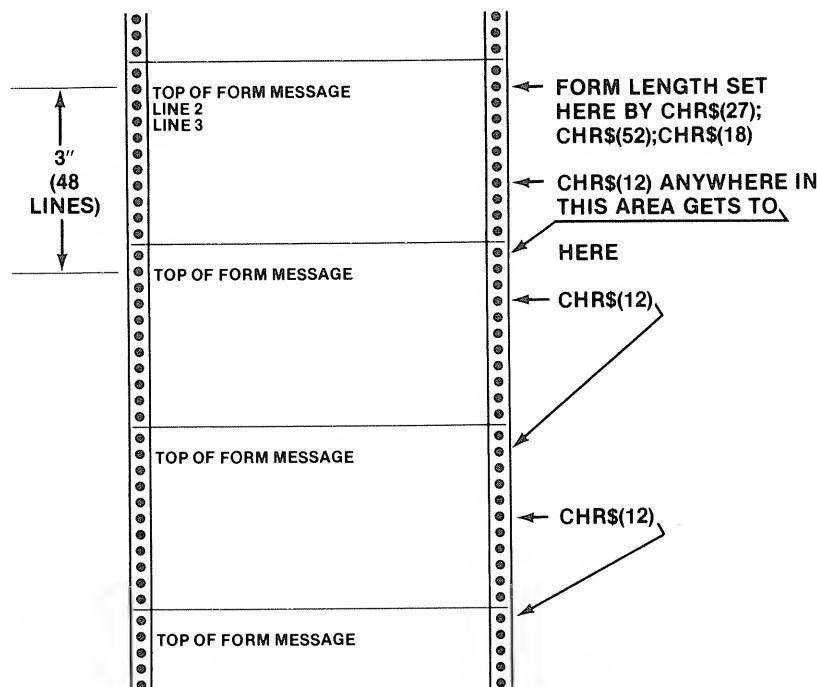

Figure 7-9. Top of Form Spacing
Having set the form length, how do you control the form spacing or page-eject? This is done through a top-of-form character—a CHR\$(12). The CHR\$(12) is not sent to the printer in most BASICs; it's usually intercepted by BASIC or the operating system software and a series of line feeds are sent to the printer instead, based on a line count and form length held in BASIC. However, if a CHR\$(12) does get to the printer via an assembly language program, the CHR\$(12) would cause this action: The printer would compare the current line count with the number of lines per form. It would then space the paper until the same position on the next page was reached, as shown in Figure 7-9. Executing a series of CHR\$(12) commands would space three inches for every CHR\$(12).